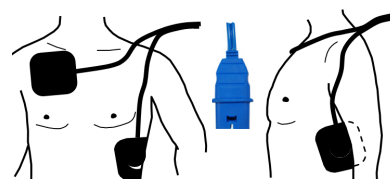

Fig.3.1 Adult electrode application site
Electrode placement is the same for adults and children weighing 25 kg or more, see Fig.3.1 Adult electrode application site and Fig.3.2 Application sites for children more than 25 kg.
3. Apply the other electrode slantwise below the left breast as illustrated in Fig.3.1 Adult electrode application site/ Fig.3.2 Application sites for children more than 25 kg.